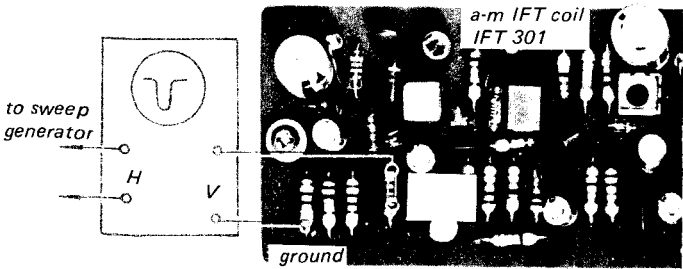
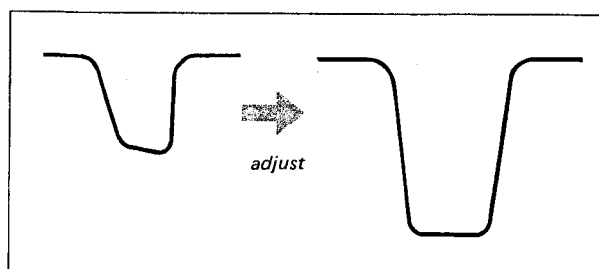
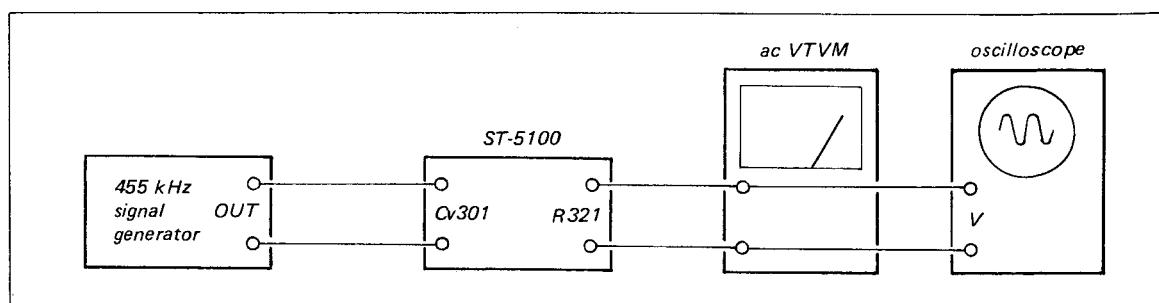

Fig. 3-11 A-m detector output connection
Fig. 3-12 A-m i-f response
Fig. 3-14 A-m i-f strip alignment by rf generator
2. Connect the input cable of the oscilloscope to R321 and ground on the a-m tuner circuit board with alligator clips as shown in Fig. 3-11.
4. Turn the top core of (IFT301) (see Fig. 3-11) to obtain a maximum and symmetrical response as shown in Fig. 3-12.
3. With the scope VTVM aconnected as shown in Fig. 3-14, turn the top core of IFT301 (see Fig. 3-11) to obtain maximum output.